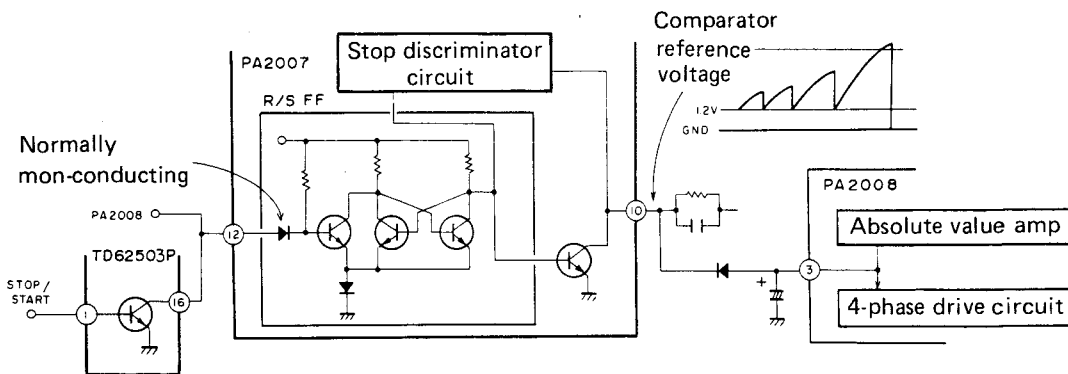

Fig. 4-10 Stop discriminator theoretical circuit
2. The stop discriminator circuit functions to detect low or high rotation speed through the charge/discharge status of capacitors and resistors connected to IC PA2007 pin 10 (To/STOP), and when rotation drops below a certain speed, motor torque is dropped to zero. A theoretical circuit diagram is shown in Fig. 4-10.